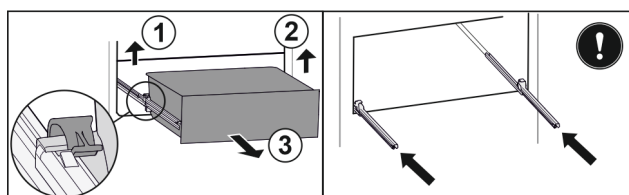

Fig. 210
- Lift left clamp and simultaneously pull drawer forwards on the left. Fig. 210 (1)
- ▶ Lift right clamp and simultaneously pull drawer forwards on the right. *Fig. 210 (2)*
- ▶ Remove drawer to the front. *Fig. 210 (3)*